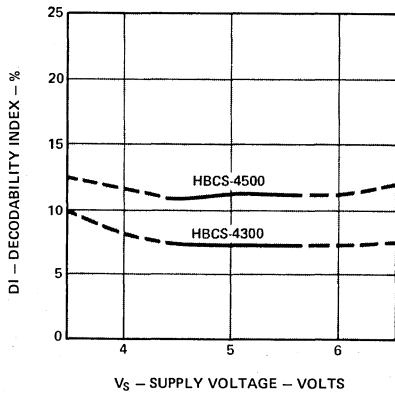

Figure 3. Decodability Index vs. Supply Voltage
- Shield must be properly terminated (see Figure 3). The human body is modeled by discharging a 300 pF capacitor through a 500  $\Omega$  resistor. No damage to the wand will occur at the specified discharge level.
The recommended logic interface for the wands is shown in Figure 3. This interconnection provides maximum ESD protection for both the wand and the user's electronics.